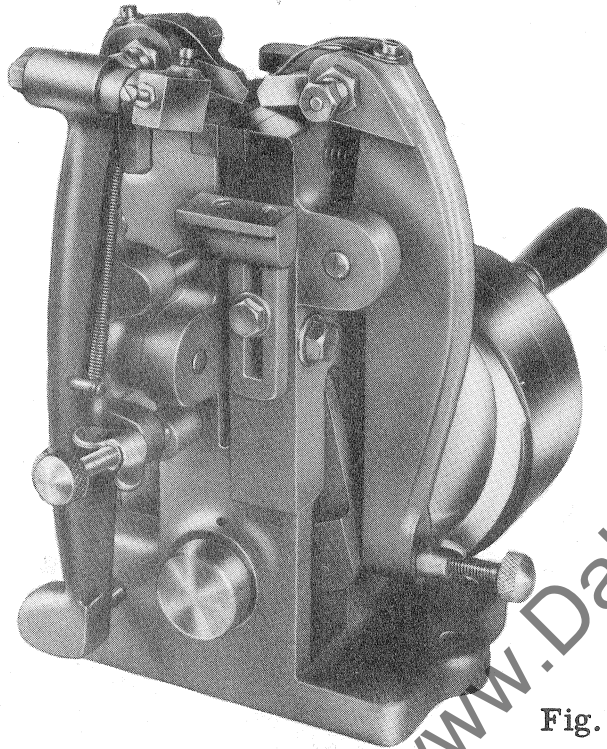

Fig. 15
(1) The use of a hand setting tool of the plier type.
(2) Machine setting. The standard filing machine described on page 15 can be changed over from filing to setting action, but many firms prefer to install a separate inexpensive setting machine as described on page 16. The difference between the machines (Figures 15 and 16) is one of capacity of saw width and pitch, and the advantage of these machines is that the strikers which push the teeth over, are arranged on opposite sides of the blade, and strike adjacent teeth simultaneously. In this way the shock of the two strikers cancel each other out, and does not damage the body of the band ribbon.